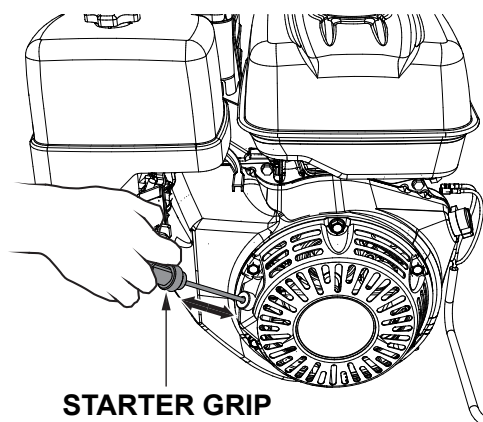

Figure 13. Starter Grip
7. Slowly pull the starter grip (Figure 13) until resistance is felt, then pull briskly and smoothly to start the engine. Gently return the starter grip to its original position.